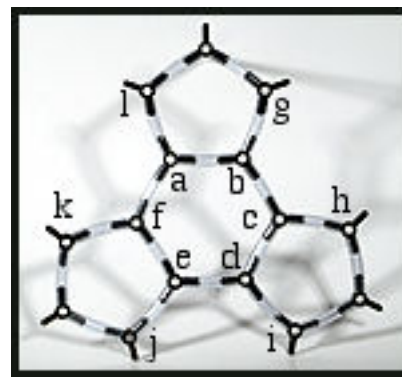

Fig. 2 Completing step 2
2. Attach three atoms to pegs a and b of the hexagon to form a pentagon. Repeat with atoms c and d, and then with e and f. (Fig. 2)